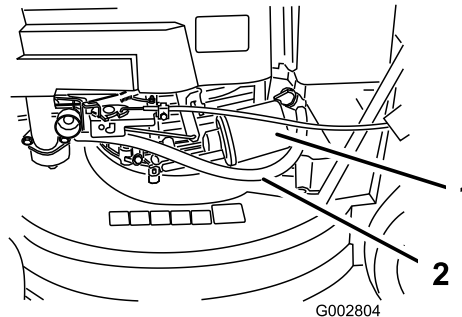

Figure 25
5. Place a rag under the oil filter to catch any oil that may leak out as you remove the filter (Figure 25).